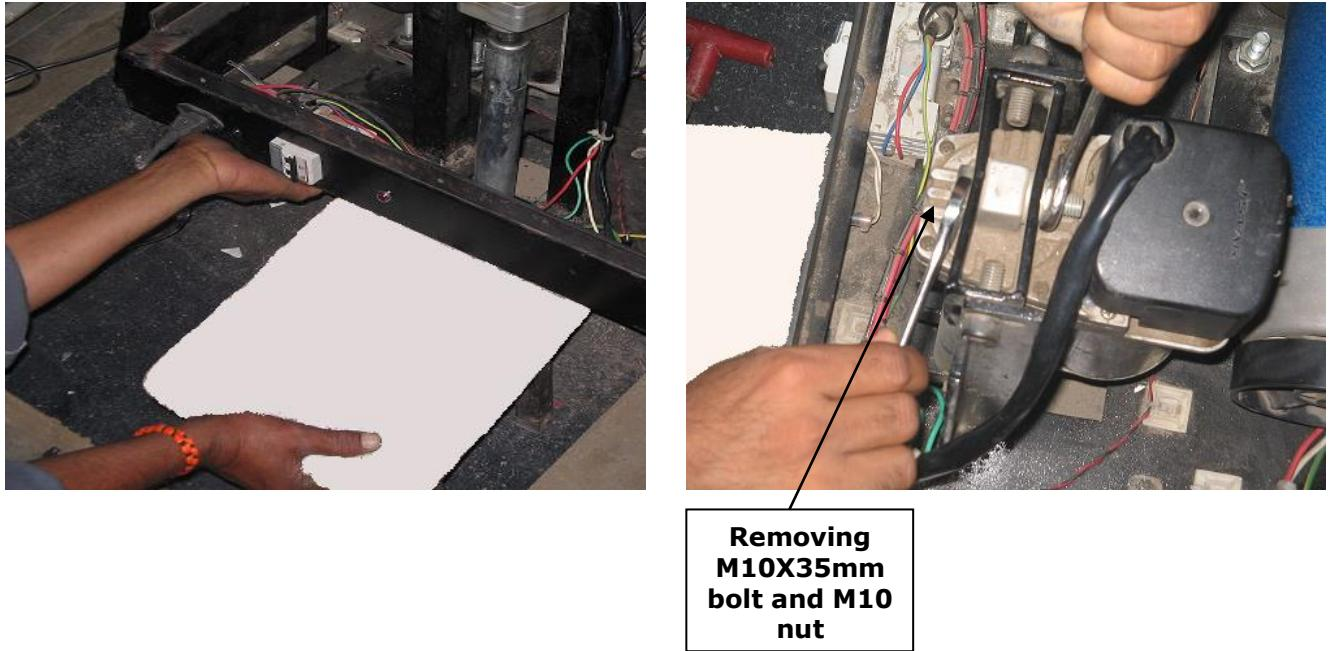

Fig. 21
- First place one support like stool below treadmill as shown in fig.21 so that it will not fall directly after removing of actuator.
- Then remove top M10X35mm Actuator mounting bolt by removing M10 nut as shown in below fig21.